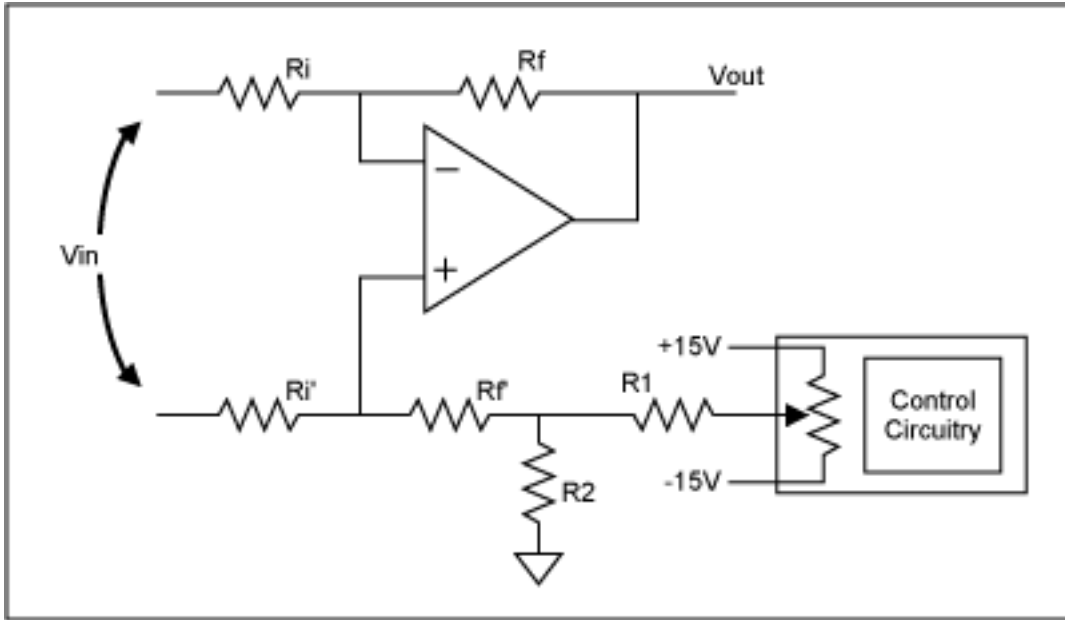

Figure 7. Differential amplifier.
**Figure 7** shows a differential amplifier configured for offset adjustment. In the standard configuration, the resistor  $R_f'$  is connected directly to ground. If it is, instead, connected to an ideal voltage source, that voltage appears directly on the output as an offset.